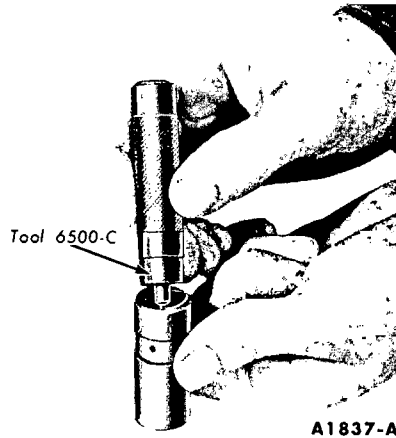

FIG. 53—Valve Lifter Lock Ring Installation
6. Push the plunger and push rod cup into the body and install the lock ring (Fig. 53). Release the plunger; then depress it again to fully seat the lock ring.